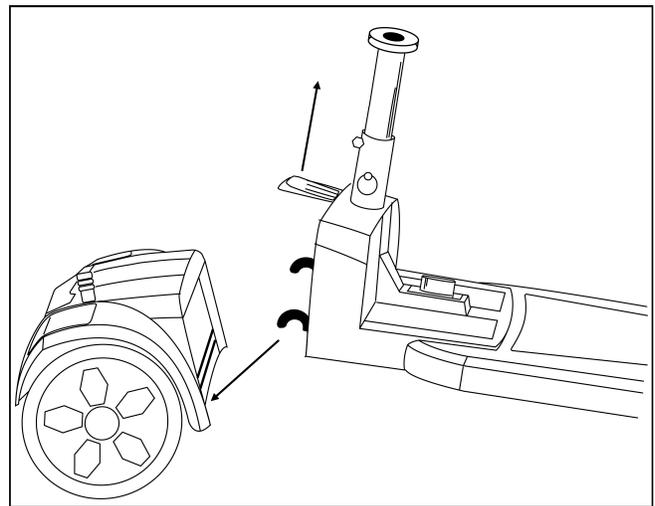

Figure 21. Connecting Frame and Drivetrain
2. Lower the frame onto the drivetrain until the drivetrain release lever engages. You should hear an audible click. See figure 21.